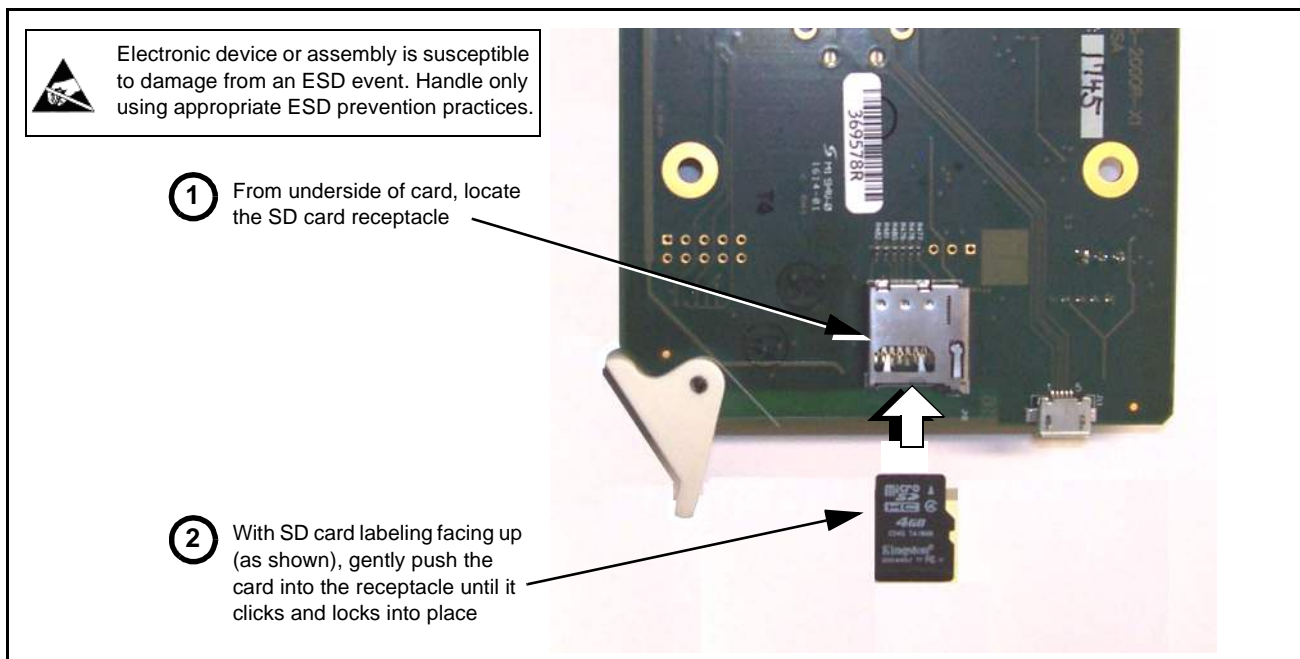

Figure 3-8 SD Card Installation
1. (See Figure 3-8.) Make certain the card has the proper SD card installed in the under-card slot. If SD card is **not** installed, contact Product Support to obtain an SD card.